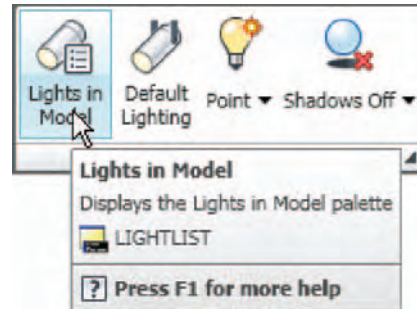
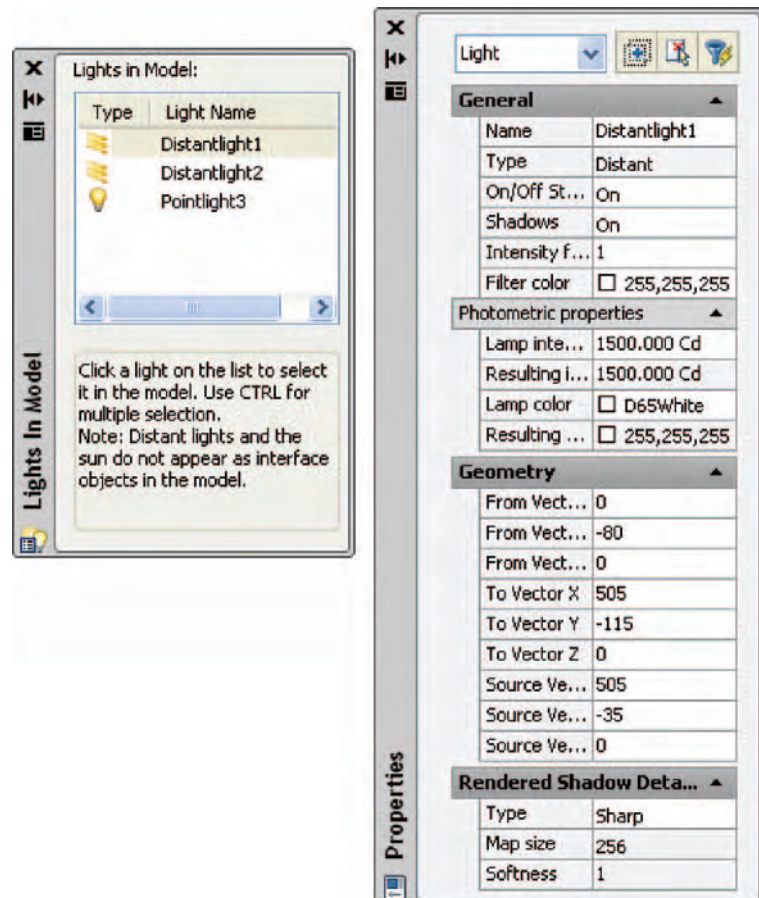

Fig. 15.31 Selecting the **Lights** icon from the **Visualize/Lights** panel
Fig. 15.32 The **Lights in Model** and **Properties** palettes
7. When the model has been rendered if a light requires to be changed in intensity, shadow, position or colour, *click* the **Light List** icon in the **Visualize/Lights** panel (Fig. 15.31) and the **Lights in Model** palette appears. *Double-click* a light name and the **Properties** palette for the light appears in which modifications can be made (Fig. 15.32). Amendments can be made as thought necessary.